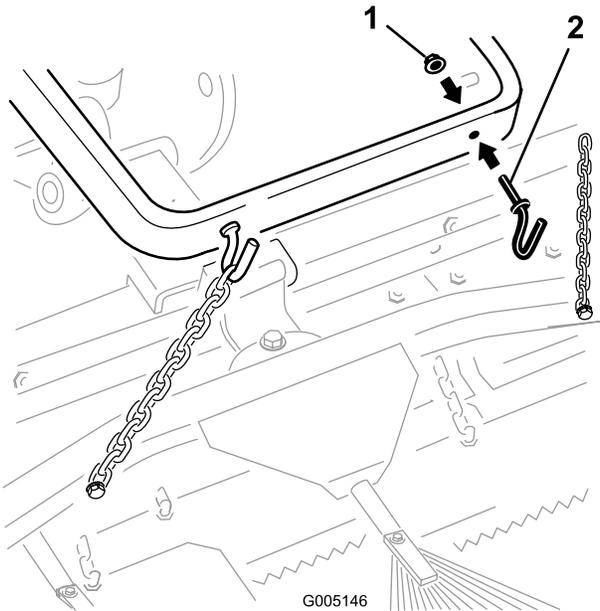

Figure 6
- A. Mount 2 hooks to the back of the lift arm with 2 flange nuts (3/8 inch) (Figure 6). Secure the chains to the hooks at the desired length.